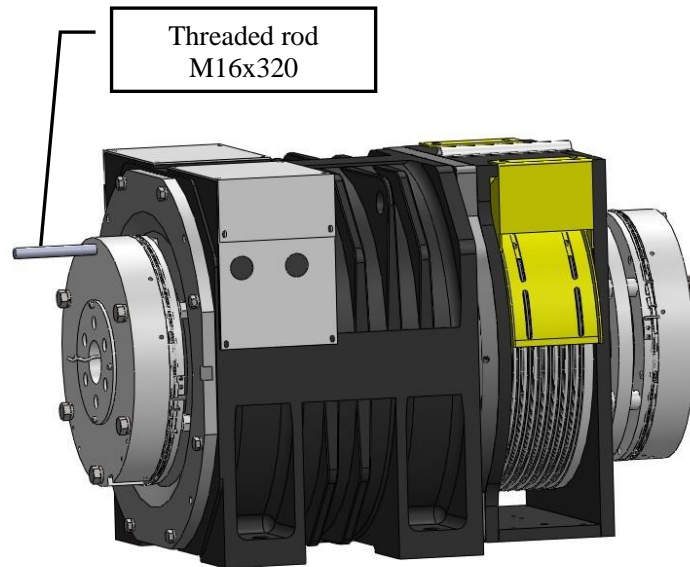

Figure 43: Install Threaded rod
5. Then install the threaded rod M16x320 into the hole. See Figure 43.